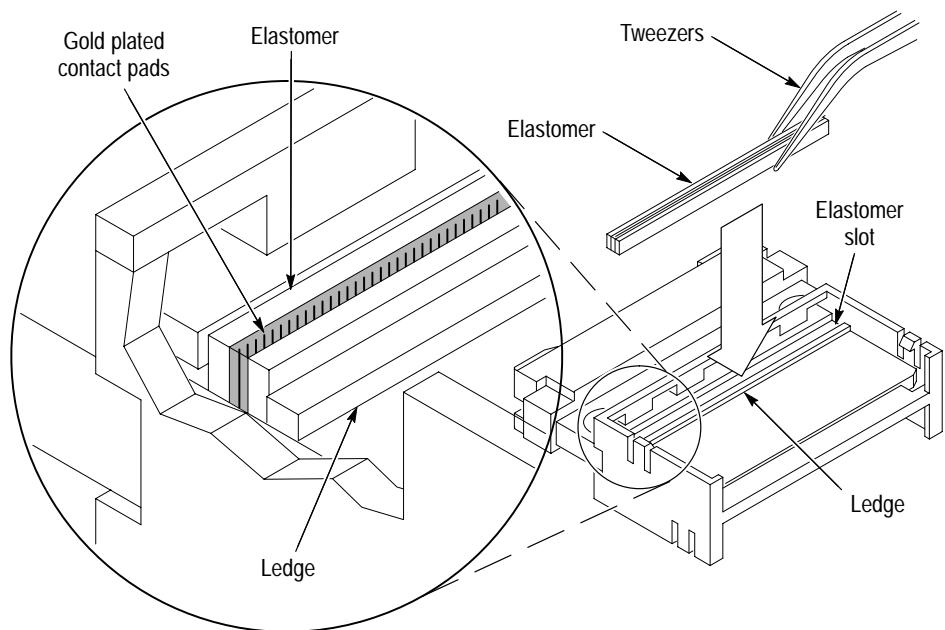

Figure 6: Positioning the elastomer connector
3. Using tweezers on the flat areas adjacent to the gold plated contact pads, remove the elastomer connectors. See Figure 6 on page 7.
4. Using tweezers on the flat areas on both sides of the gold plated contact pads, carefully orient the elastomer and place it in the elastomer slot in the board holder, as shown in Figure 6.